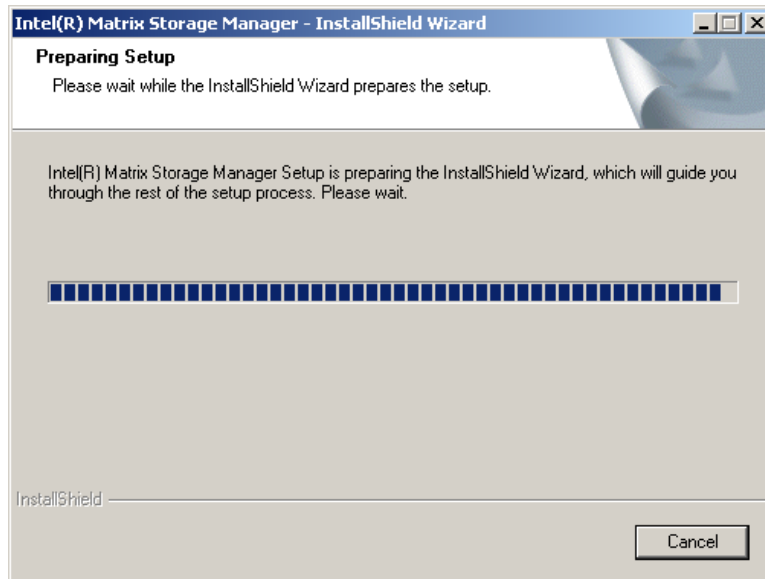

Figure 7-23: InstallShield Wizard Setup Screen
Step 5: **Figure 7-23** shows the **InstallShield Wizard** preparing to guide the user through the rest of the process.